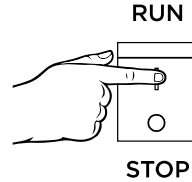

Figure 10 - Engine Control Switch - RUN
5. Push the engine control switch into the RUN position (see Figure 10).
4. 5. Push the engine control switch into the RUN position (see Figure 10).